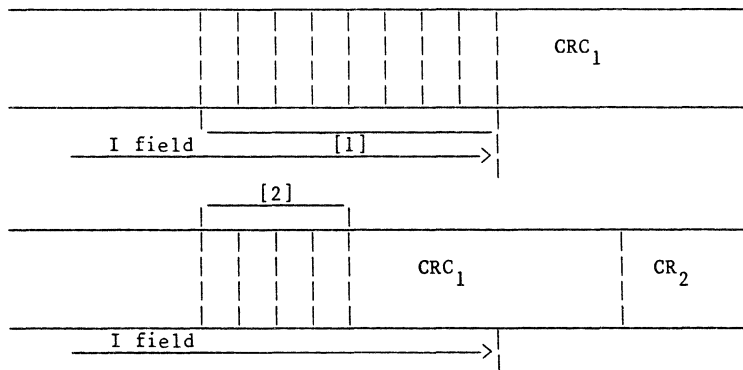

Fig. 3.12 I Field Fractions
Example) Two cases that [1] number of bits of one character at the end of I Field is 8 (0) bits and [2] 4 bits are shown in Fig. 3.12.